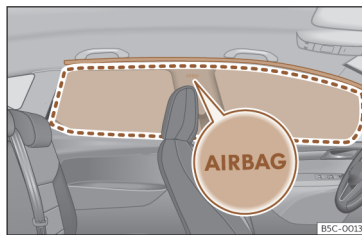

Fig. 36 Location of head-protection airbags.
Head-protection airbags are on both sides of the passenger compartment, above the doors >>> **Fig. 36** and their location is indicated with the word "AIRBAG".
The framed area is covered by the head-protection airbag when it is deployed (deployment area) >>> **Fig. 36**. Therefore, objects should never be placed or mounted in this area >>> ⚠.
- Ensure that children are correctly seated in their seats and that their heads are not in the deployment zone of the head airbags >>> **Fig. 36**, as deploying airbags could hit them and cause serious injury.